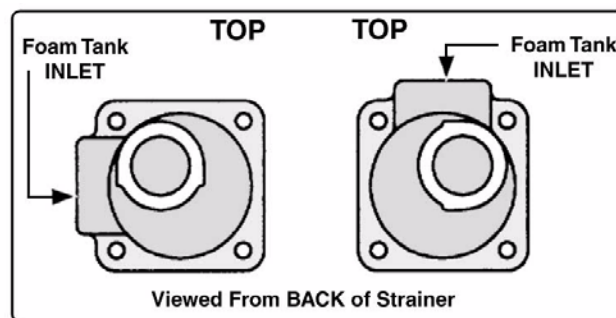

Figure 3-16: FS Strainer Orientation
2. When selecting the strainer location make sure there is sufficient space behind the pump panel to attach hoses and fittings. Also make sure the inlet connection port is oriented correctly. (See Figure 3-16: "FS Strainer Orientation.")
8. Make sure the strainer is properly oriented. (See Figure 3-16: “FS Strainer Orientation.”) Apply Loctite #242 Threadlock Compound (or equal) to the screws, then secure the strainer body and nameplate to the apparatus. Install the strainer cap.